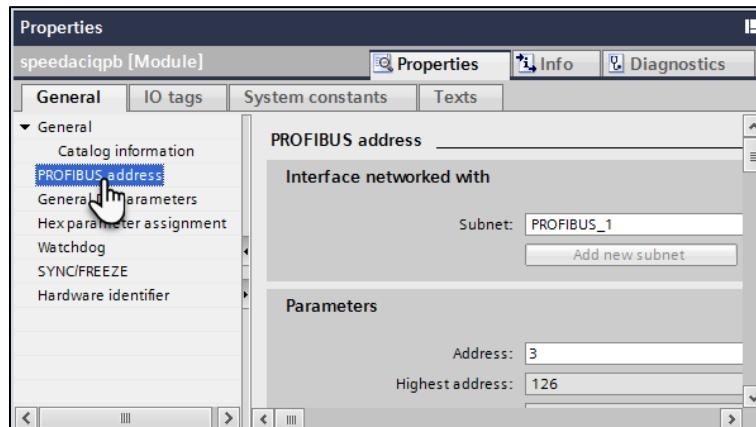

Figure 52: SpeedAC iQ Profibus DP Address Screen
- Check that the **Address** value is the same as the one entered in the Service Mode from section 5.1 (see **Figure 52**).